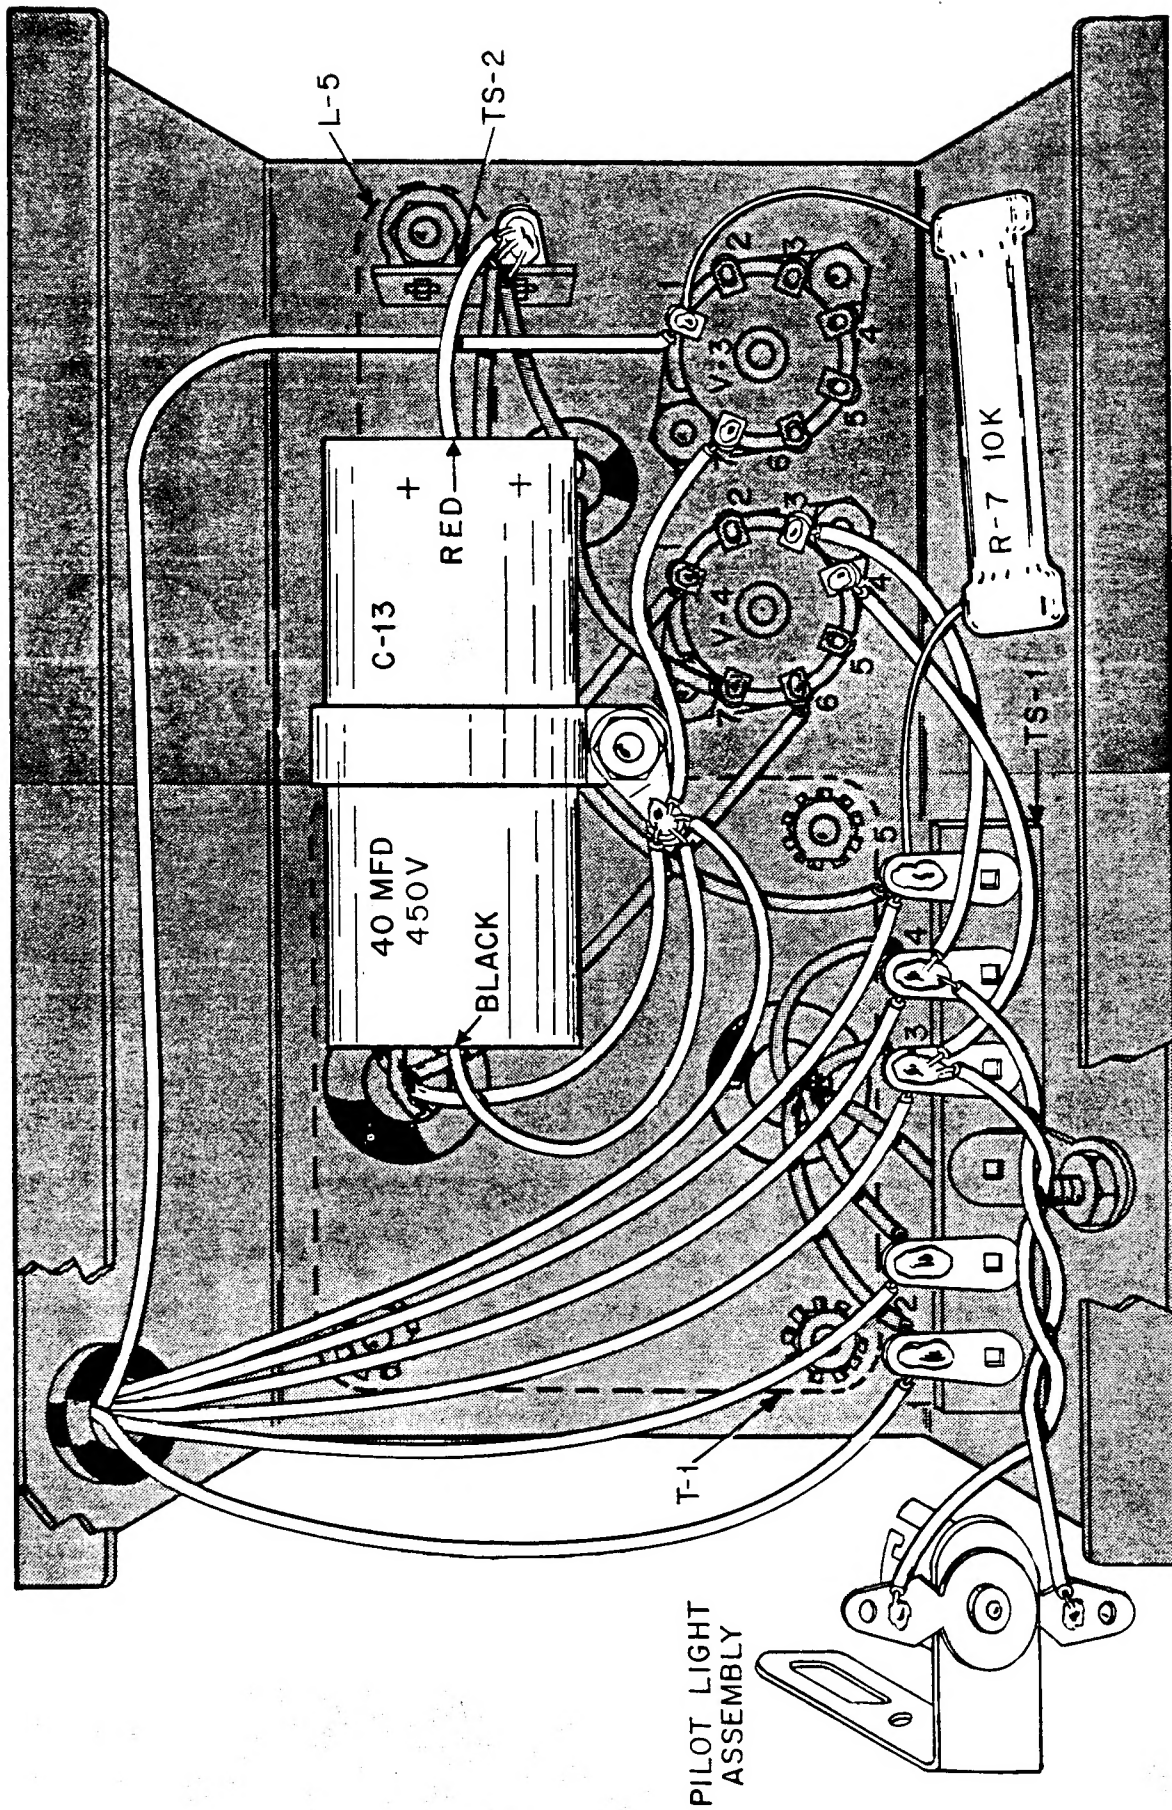

FIGURE 5. SECOND WIRING VIEW, POWER SUPPLY CHASSIS
SEE FIGURE 5.
- () Mount C-13, the 40 MFD, 450 V electrolytic capacitor, and a ground lug as shown in Figure 5. The red lead must be toward TS-2. Use the same larger machine screw and nut to fasten both.
- () Check all of the work against Figure 5. You have finished wiring the power supply chassis of your KNIGHT VFO. All connections must be strong mechanically and all should now be well soldered.